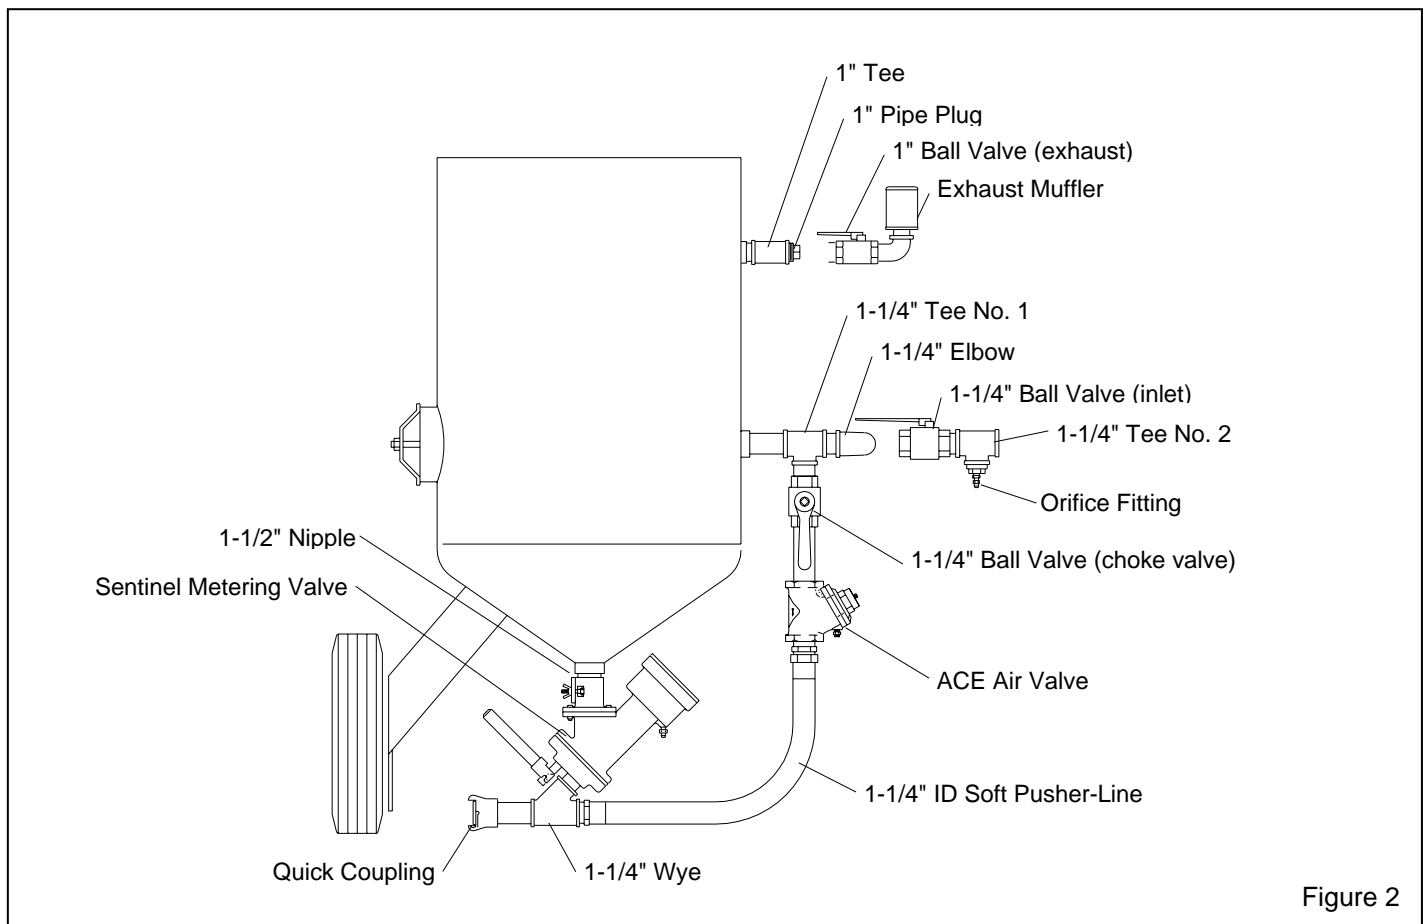

Figure 2
**2.2 Field Installation:** Refer to Figure 2.
**2.2.6** Install a 1-1/4" pipe tee (tee #1) at the blast machine inlet as shown in Figure 2.